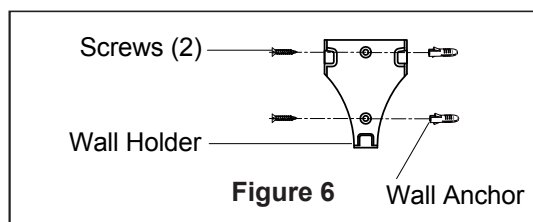

Figure 6
- **Installing Wall Holder:** (Figure 6)